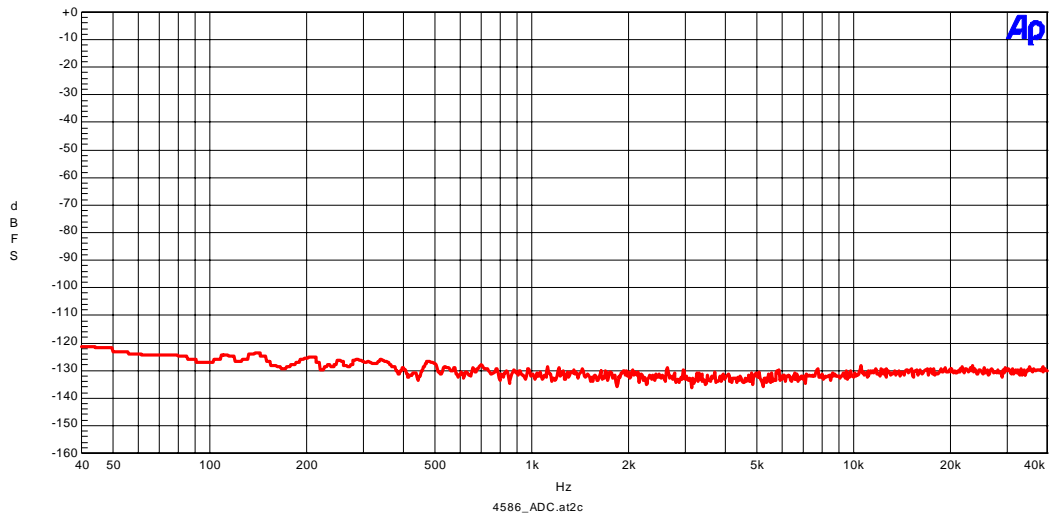

Figure 2-3. FFT (Noise floor)
- Figure 2-3. FFT (Noise floor)